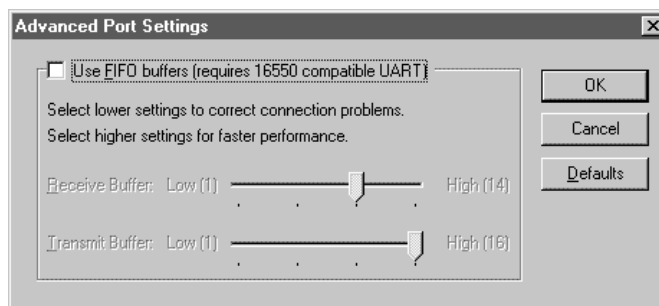

Figure 8-6: Advanced Port Settings Dialog Box
13. Next, select the Advanced button to bring up the advanced port settings dialog box shown in Figure 8-6.